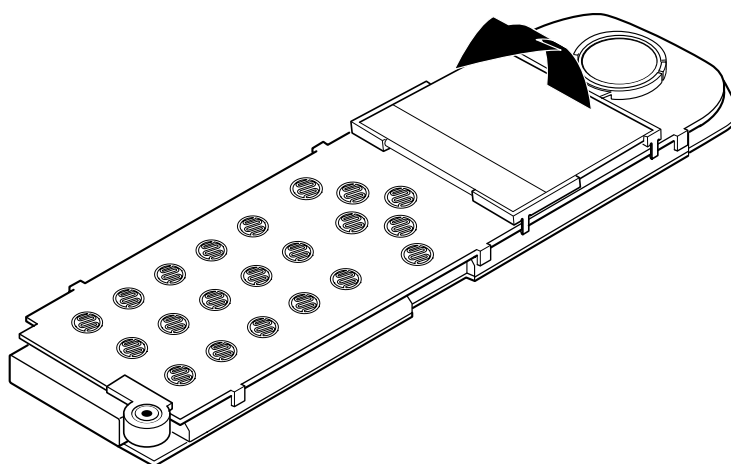

Figure 8: LCD removal 1
8. Figure 8 Tip LCD display forward to allow removal of the LCD earpiece holder